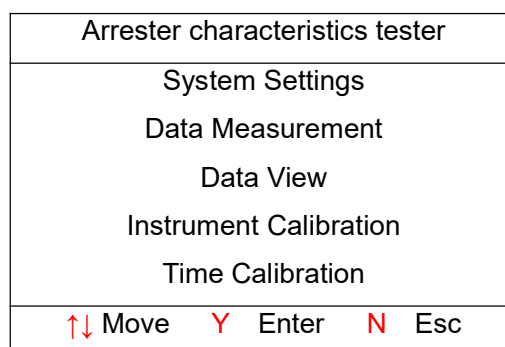

Figure 4 Main Menu
1. Connect the line and the instrument power supply, and turn on the power supply, then the screen displays as shown in Figure 4.